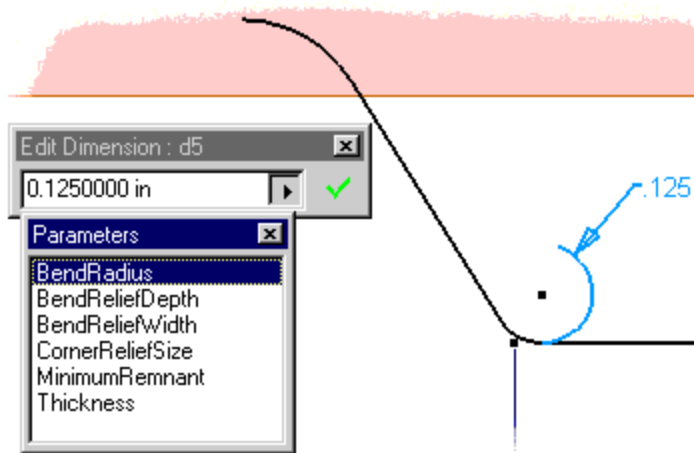

Figure 12: Parameters list.
10. Double-click the .125 fillet dimension. Click the arrow on the right side of the edit box and select List Parameter from the pop-up menu. All named parameters in the part are displayed (see Figure 12). Select BendRadius from the list of parameters. Click the green checkmark in the edit box to complete the dimension.